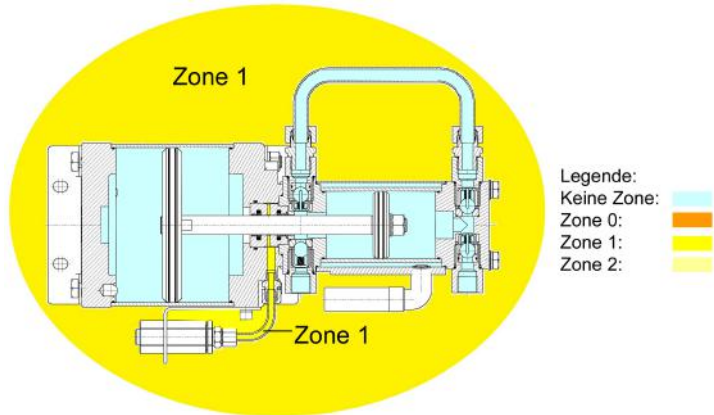

Fig. 10-2 Diagram of ATEX zones
Refer to the figure 10-2 "Diagram of ATEX zones" for the permissible zones. The designation is indicated on the rating plate and on the general drawing. The individual parts of the label are explained below.
- 4 -: Ignitable mixtures are not permitted in the drive or in the HP unit. The permissible zones are indicated in Figure 10-2 "Diagram of ATEX zones".
- 10 -: Ignitable mixtures are not permitted in the drive or in the HP unit. The permissible zones are indicated in Figure 10-2 "Diagram of ATEX zones".